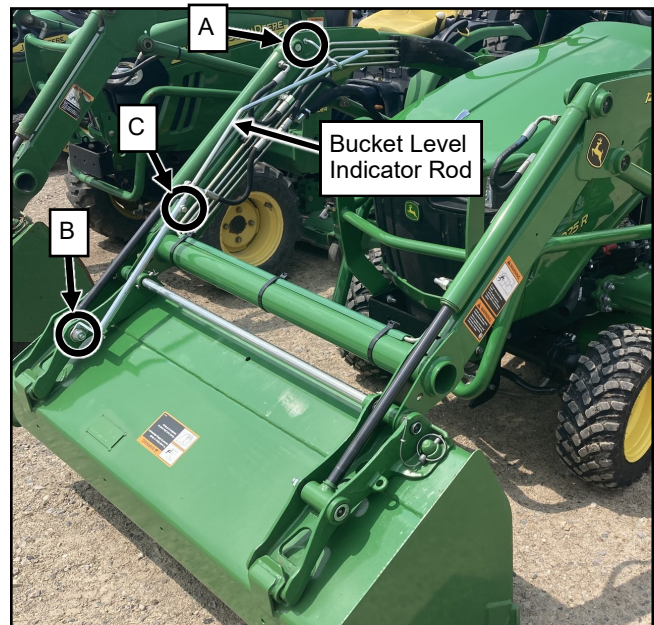

Fig. 1 (Disconnect Bucket Level Indicator)
1. With the loader settled on the ground, remove any cable ties obstructing the fasteners at points A thru C on Fig. 1.